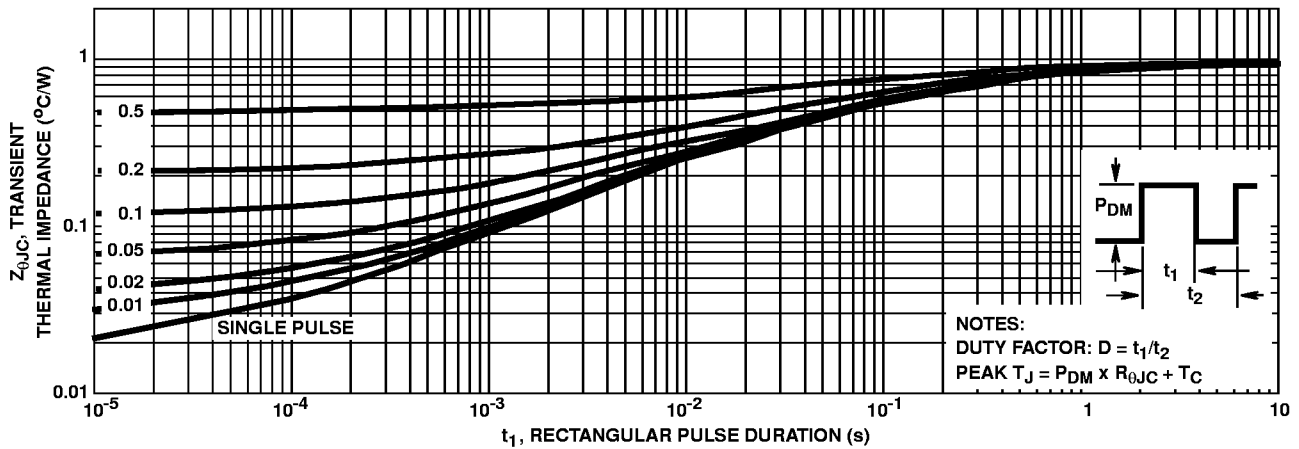

FIGURE 3. NORMALIZED MAXIMUM TRANSIENT THERMAL IMPEDANCE
- Repetitive rating: pulse width limited by maximum junction temperature. See Transient Thermal Impedance curve (Figure 3).